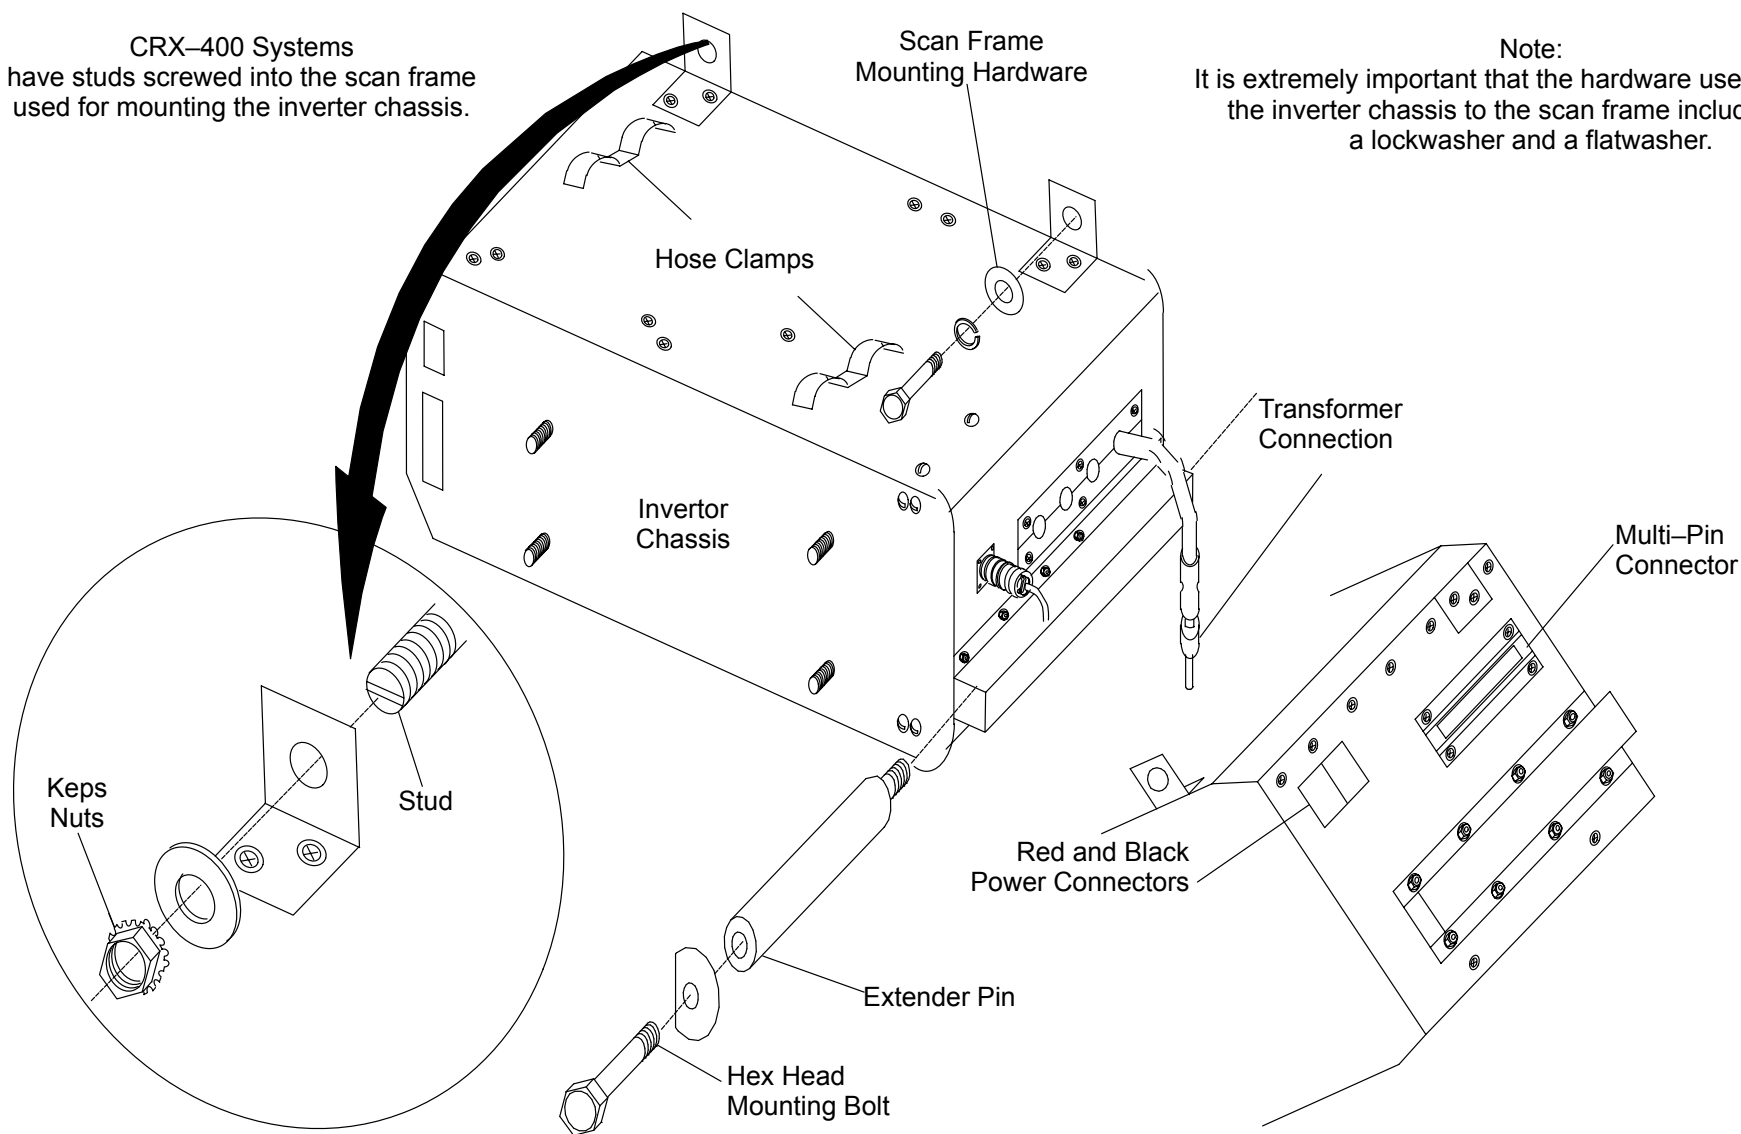

FIGURE 266 Inverter Chassis
7. Remove the Mounting Hardware securing the Inverter Chassis to the Scan Frame. See Figure 266.
8. Remove the two Hex Head Bolts and their Washers. Screw Extender Pins into the holes vacated by the two Hex Head Bolts. Tighten the Extender Pins only hand tight. Refer to Figure 266.
15. Remove the Extender Pins and replace the two (2) Hex Head Bolts, their Washers and the Scan Frame Mounting Hardware. Refer to Figure 266.